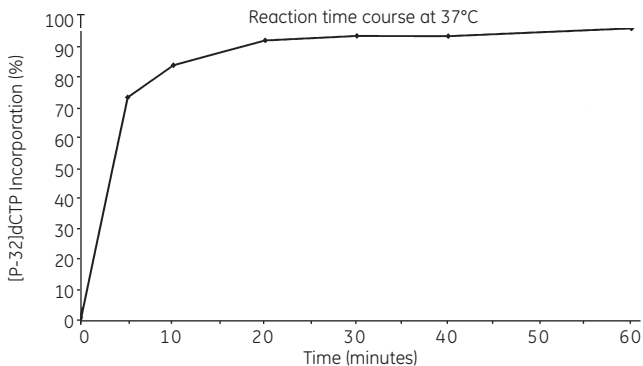

Fig 1. Time course of incorporation of [α - 32 P]dCTP (17 pmols) in a Rediprime reaction at 37°C using the control DNA supplied with the system.
7. Incubate at 37°C for 10 minutes.	7. If desired, the labeling reaction can be allowed to proceed at room temperature, or may also be left to proceed overnight. Probes of high specific activity can be generated in 20–60 minutes at this temperature (see figure 1).